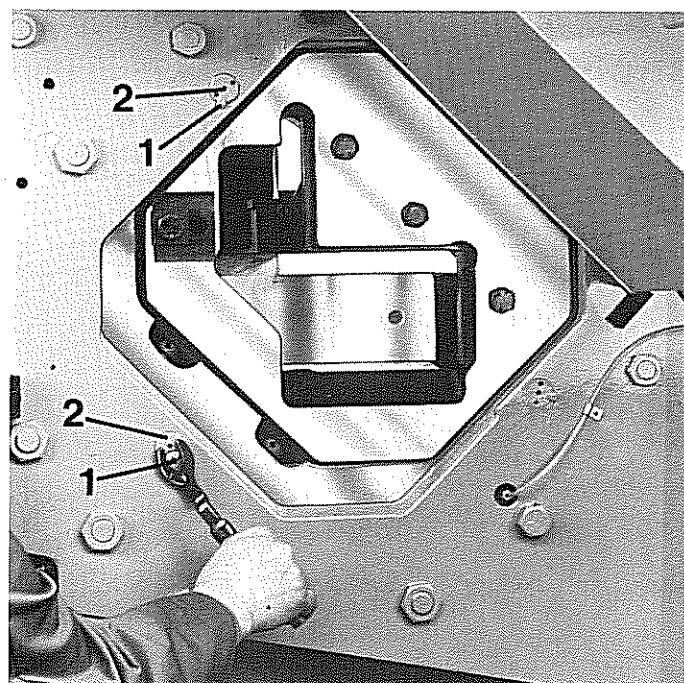

Fig. 44: Adjusting the slide guide at right angles to the machine
a) At right angles to the machine: (Fig. 44)